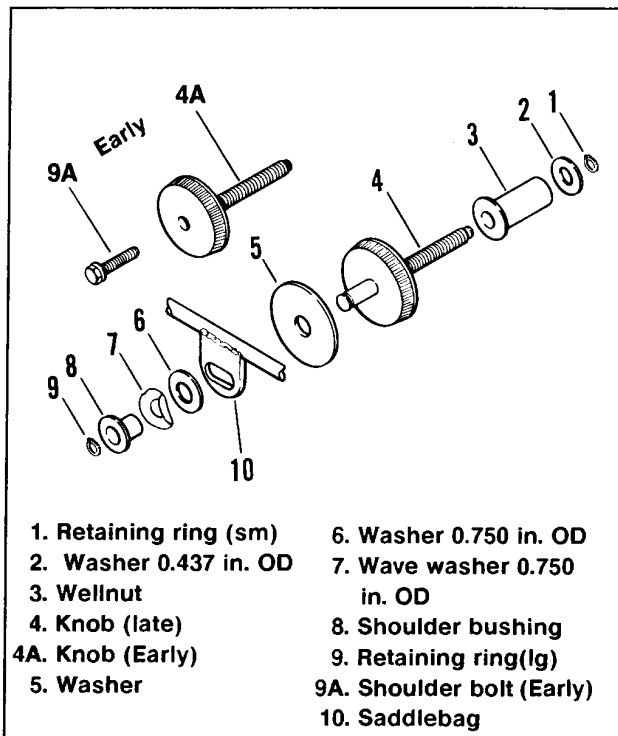

Figure 1. Rear Attachment Assembly
- A new beryllium-copper (copper colored) retaining ring (item (1) in Figures 1 and 2) has been introduced as a mid-1991 production change. Beginning Feb. 1st., the new retaining ring has also been included in the attachment kits and in the FXR Convertible Saddlebag Kit, Part No. 91718-89. The new retaining ring replaces an "E-ring".
- See Figure 1. Remove and discard retaining rings (1) and (9) or shoulder bolt (9A) from original attachment assembly to be replaced. Remove and discard stock items (2) through (8).
- From kit, thread wellnut (3) onto threaded end of knob (4).
- Place 0.437 in. OD washer (2) over end of knob (4). With expanding retaining ring pliers, install retaining ring (sm) (1) in groove at end of knob (4).